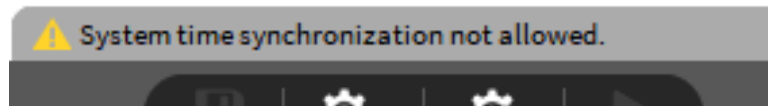

Fig. 6.8: Error message *System time synchronization not allowed*
**Note:** OXYGEN must be started with Administrator rights to use the system time synchronization function as this functionality changes the system settings of the PC. If OXYGEN is started without Administrator rights but this functionality is activated, the error message *System time synchronization not allowed* (see Fig. 6.8) will be displayed in the lower right corner of the software. note that this setting is not stored to a dms-setup file but only to the registry.